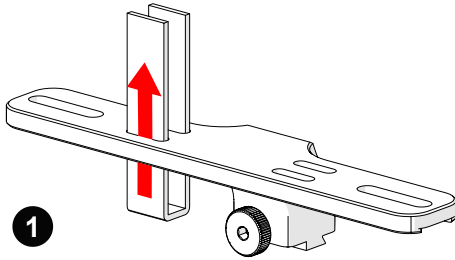

Fig. 79 - Insert velcro straps
1. Slide the velcro strap through the bracket's holes (*Fig. 79*).